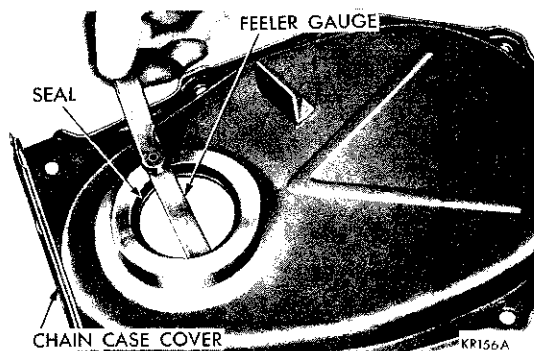

Fig. 26—Inspecting Seal for Proper Seating
(5) The seal is properly installed when the neoprene is tight against the face of the cover. Try to insert a .0015 inch feeler gauge between the neoprene and the cover (Fig. 26). If the seal is installed properly, the feeler gauge cannot be inserted.